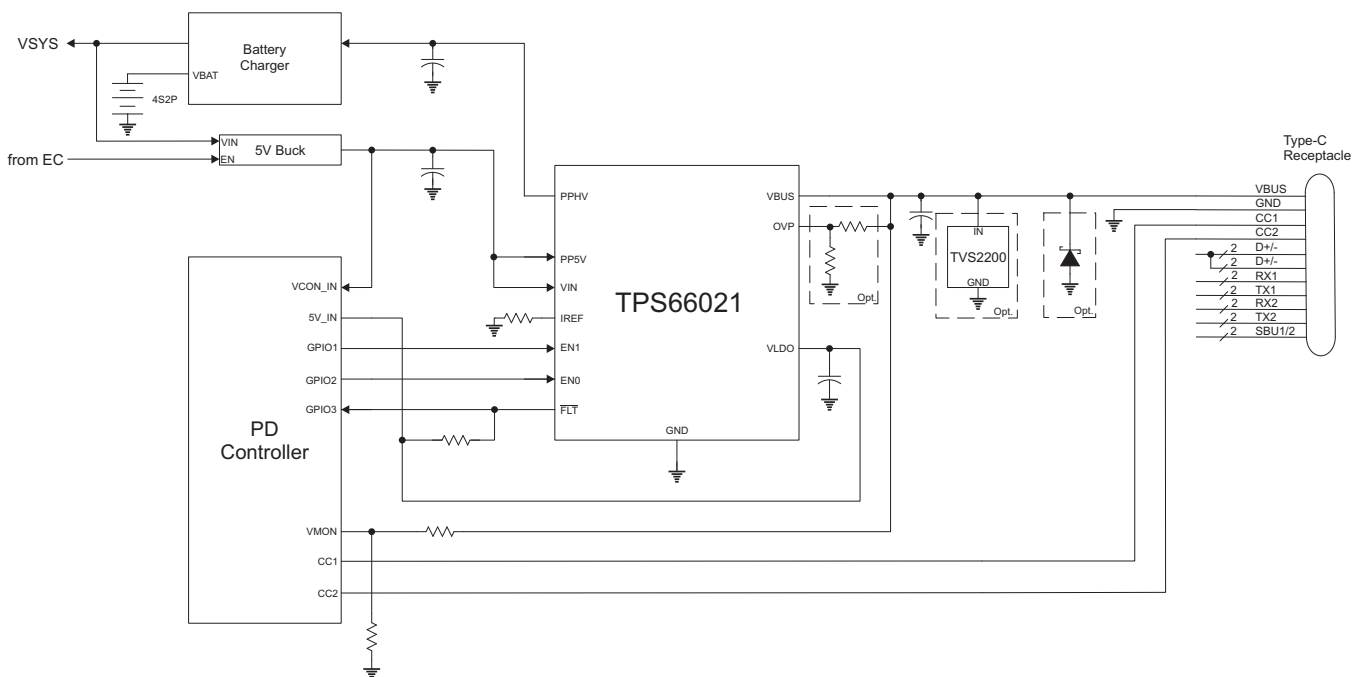
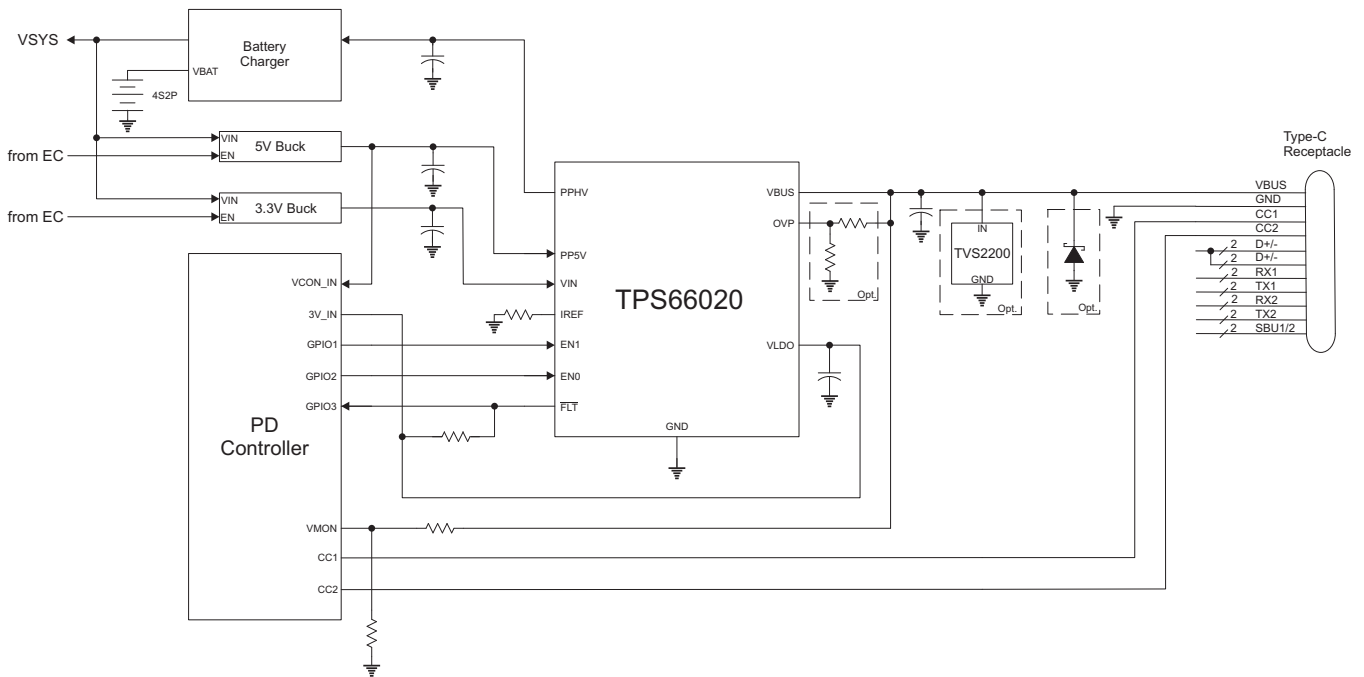

Figure 28. Single Port Type-C PD Port Using a Single 5-V Supply
图 29. Single Port Type-C PD Port Using a 3.3-V Supply
Figure 28 shows a USB Type-C single port design using a Power Delivery (PD) controller that supports 5-V operation. For this system, a single 5-V supply is used to supply power to the PP5V and VIN supplies of the TPS66021, as well as, the connector power, VCONN. The TPS66021 supplies power to the 5-V supply of the PD controller via its VLDO output which is sourced either from the integrated 5-V VBUS LDO for dead battery condition or from VIN once the dead battery condition ends.
Similarly, Figure 29 shows a USB Type-C single port design using a PD controller that only supports 3.3-V operation. In this case, a separate 3.3-V supply in the system is used to supply power to the TPS66020. The TPS66020 supplies power to the 3.3-V supply of the PD controller via its VLDO output which is sourced either from the integrated 3.3-V VBUS LDO for dead battery condition or from VIN once the dead battery condition ends.
The PPHV power path is a Sink. The capacitance on the PPHV shown in Figure 29 represents capacitance of the charger sub-system. In a typical application, this capacitance can be in the range of 47 uF up to 100 uF, far exceeding the 1-uF minimum specification for the TPS6602x, so no external capacitance is required to meet this requirement in most cases. As per the PD Specification, the total capacitance on VBUS should be maximum 10 uF at connection.
The TPS6602x integrates a high-voltage VBUS LDO that can be used to supply power to a PD Controller and other supporting circuitry when only VBUS power is available, such as in a dead battery condition. As shown in Figure 29, the TPS66020 VLDO output supplies power to the PD Controller's 3V_IN supply. Similarly, Figure 28 shows the TPS66021 VLDO output supplies power to the PD Controller's 5V_IN supply. During a dead battery condition, the PD Controller presents its Type-C RPD pull-downs on the CC1 and CC2 lines. Upon connection to a Type-C/PD Source, 5 V is provided to VBUS from the Source partner which powers the TPS6602x. The VBUS LDO is enabled and provides power to the PD Controller. Once powered, the PD Controller can decide to enable the TPS6602x PPHV Sink path by asserting EN0 high and use the 5-V VBUS to charge the battery or it may choose to negotiate a higher voltage contract first. Either way, once the contract is negotiated, the PD Controller will enable the PPHV Sink path and charge the system. Once the system is sufficiently charged, the VIN terminal will rise and will exceed the VIN UVLO threshold. If VIN remains above the UVLO threshold for t_{VIN_STABLE} , VLDO will be supplied from VIN and the VBUS LDO will be disabled.